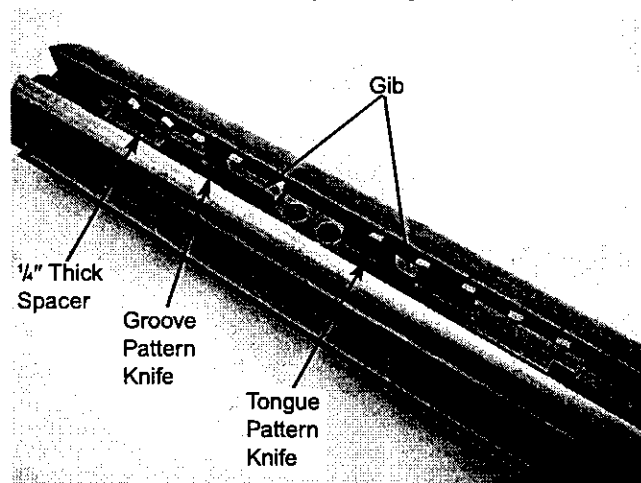

Figure 25 - Multiple Setup, Tongue and Groove Knives
Refer to Figure 25.
- The planer/molder will accept multiple pattern knives or molding cutter setups. Figure 25 shows the top and bottom knives of the tongue and groove knife set.